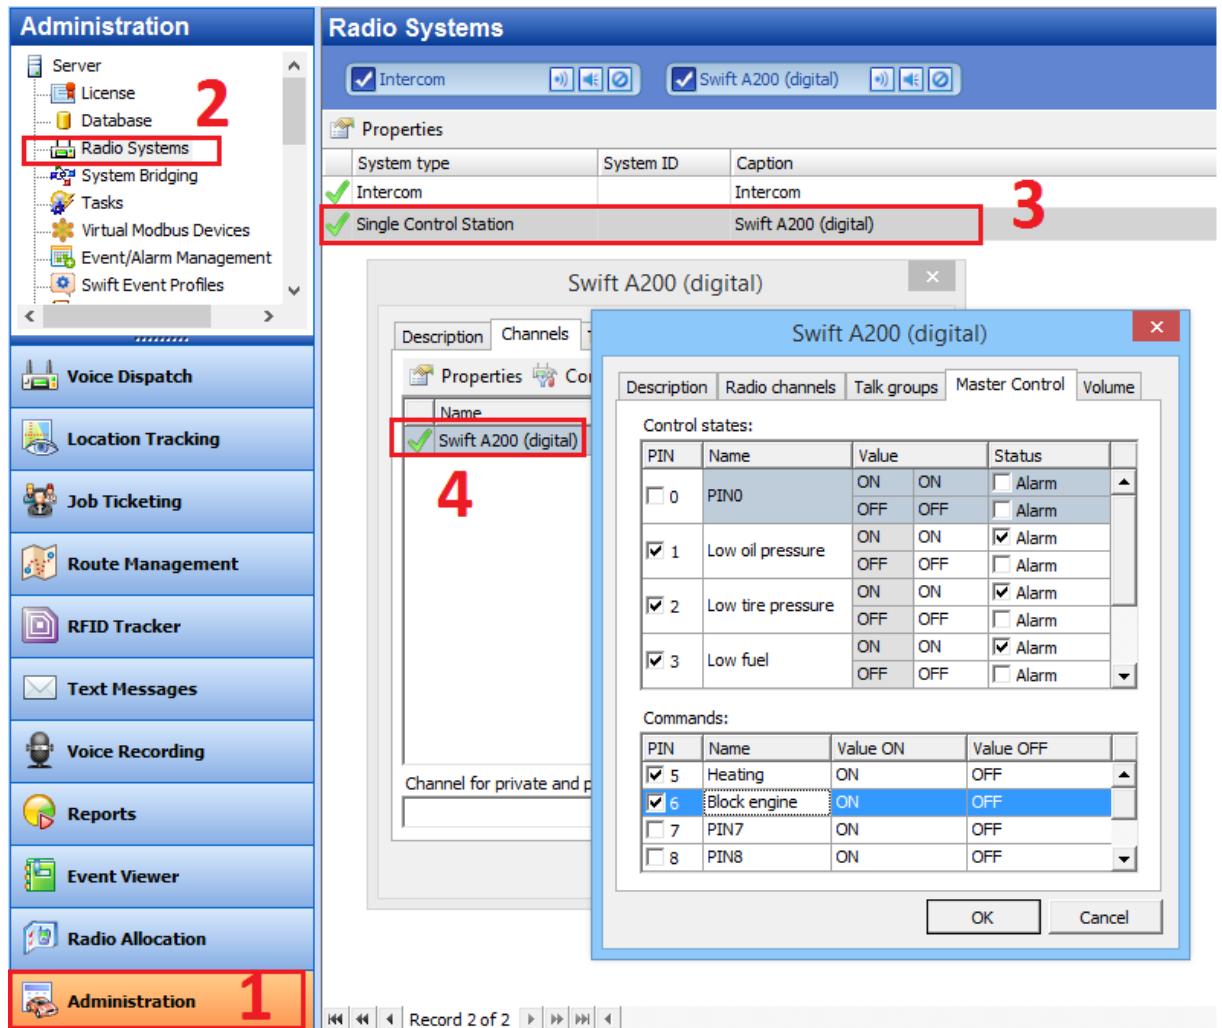

Figure 20: Configuring Swift A200 pins in TRBOnet Dispatch Console
1. In the TRBOnet Dispatch console, click **Administration** and **Radio Systems** in the left pane (Figure 20, step 1 and 2).
2. In the right pane, the list of the registered radio systems appears. Double-click the radio system associated with your Swift A200 (Figure 20, step 3).
3. In the popup window, click the **Channels** tab. Double-click the channel (Figure 20, step 4), or select it and click **Properties**. Another popup window appears.